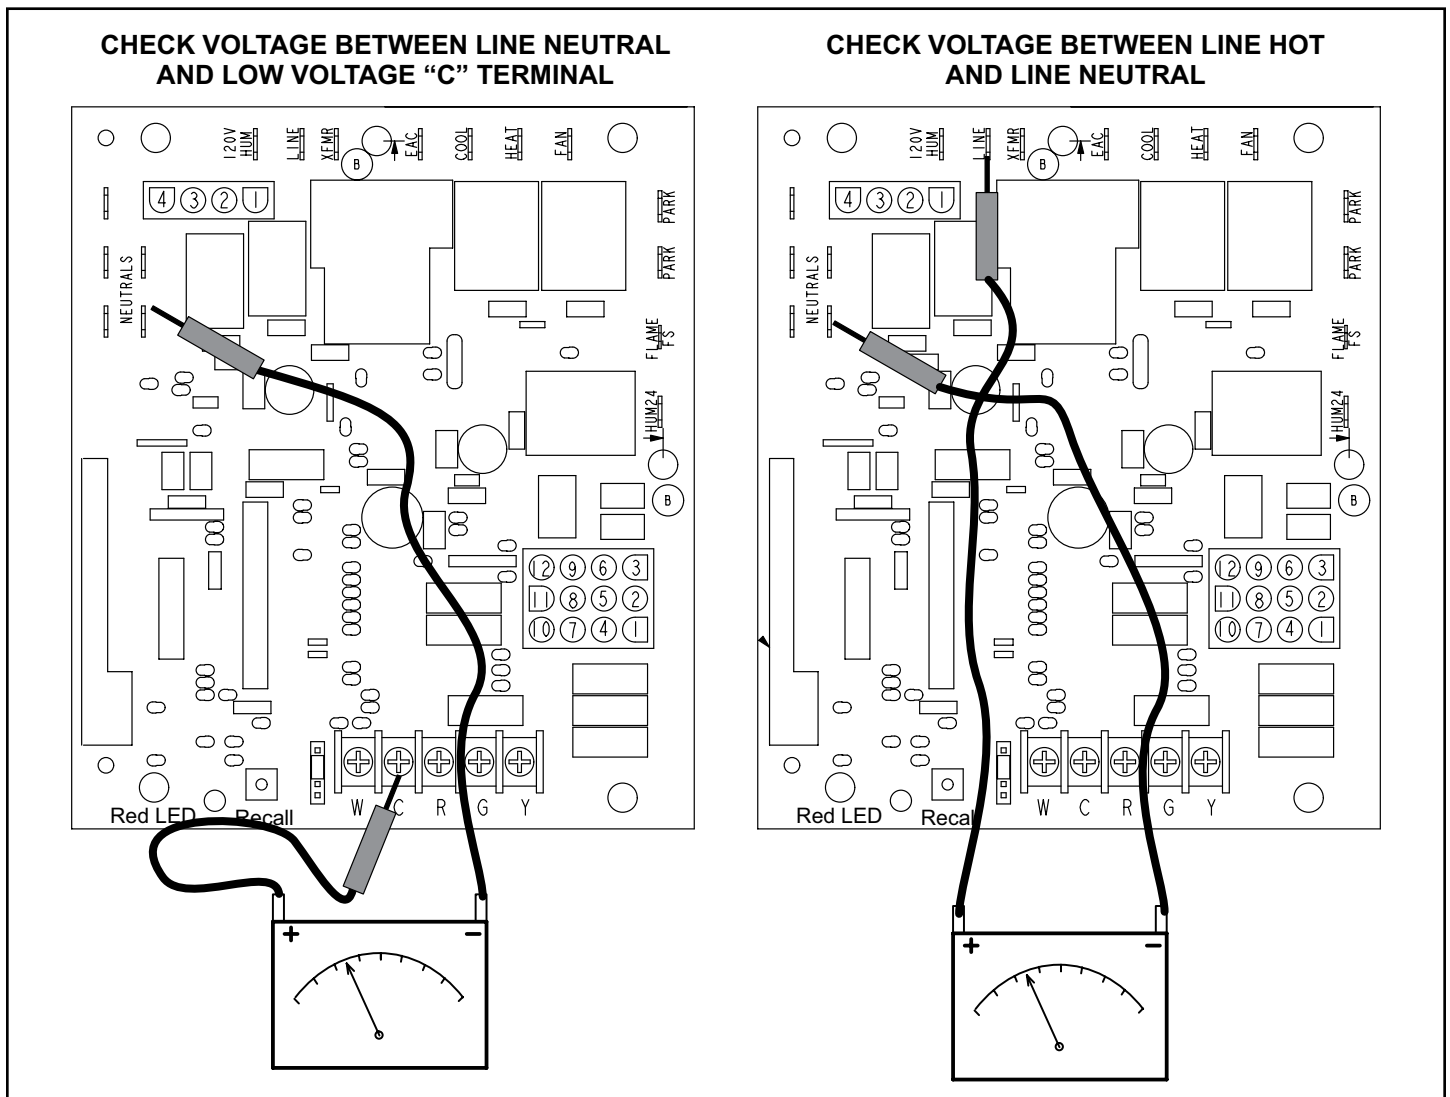

Figure 54.
1. Measure the AC voltage between Line Neutral (spade terminals) and "C" terminal (low voltage terminal block) on the integrated control. See Figure 54. A wide variation in the voltage between Line Neutral and "C"
2. In addition, measure the AC voltage from Line Hot to Line Neutral (spade terminals) on the integrated control. See Figure 54. This voltage should be in the range of 97 to 132 VAC.
Blower speed tap changes are made on the integrated control. See Figure 3 or Figure 54. The heating tap is connected to the "HEAT" terminal and the cooling tap is connected to the "COOL" terminal. On all units the continuous blower tap is connected to the "FAN" terminal. Unused taps must be secured on two dummy terminals labeled "PARK". To change out existing speed tap, turn off power and switch out speed tap with tap connected to "PARK". See blower speed tap table on unit diagram for motor tap colors for each speed.